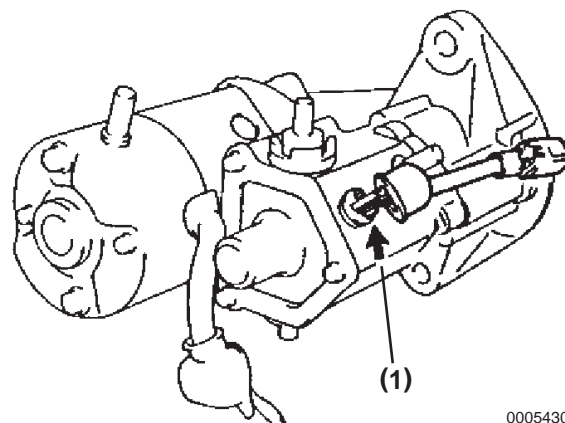

Figure 10-42
13. Connect the lead wire to terminal 50 (**Figure 10-42, (1)**) using a screw and washer and torque to 41 kgf-cm, 4.02 N-m (35.5 lb-in.).